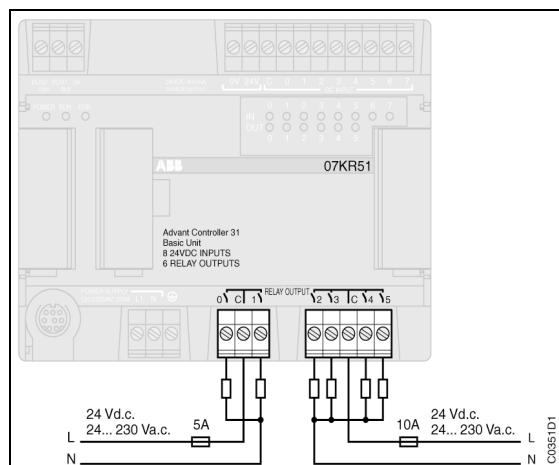
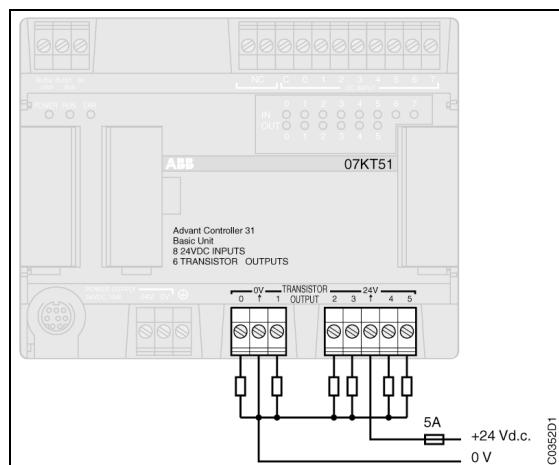

Figure 3-15: Relay outputs
Figure 3-16: Transistor outputs
- Output cabling: see Figure 3-15 and Figure 3-16.